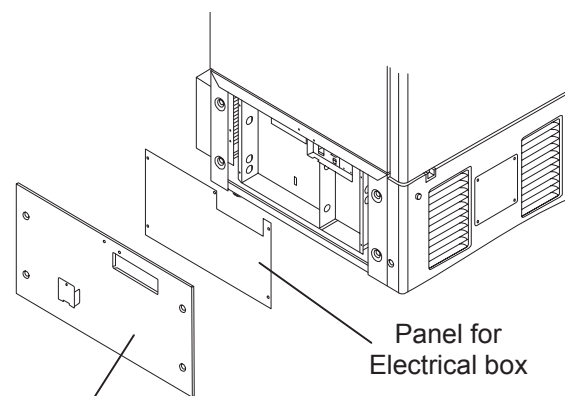

Fig. 2
2. As shown in the Fig. 2, remove 4 screws fixing the side cover with a screw driver and remove the side cover..